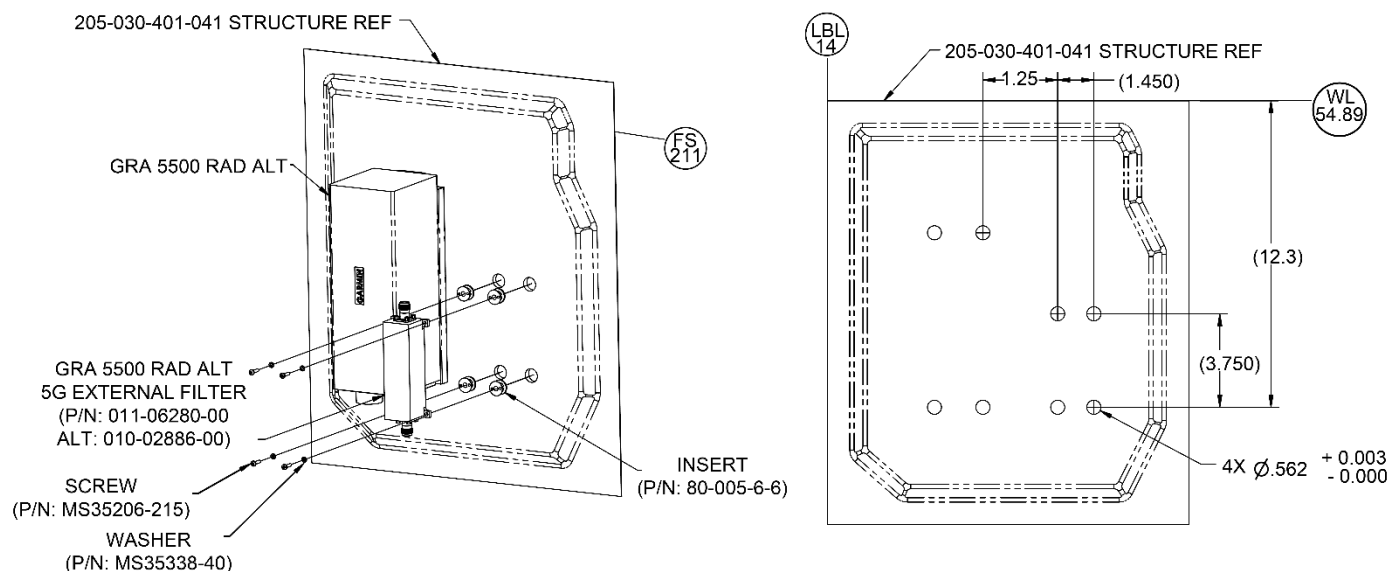

Figure 1 – Radar Altimeter and 5G External Filter Installation
4. Install Inserts (P/N: 80-005-6-6) in accordance with BHT-SRM-3-2-12 Application A, in the positions indicated in Figure 1 and using the GRA 5500 5G External Filter to locate the hole pattern.
7. Install the GRA 5500 5G External Filter (P/N: 011-06280-00) to the panel as shown in Figure 1.